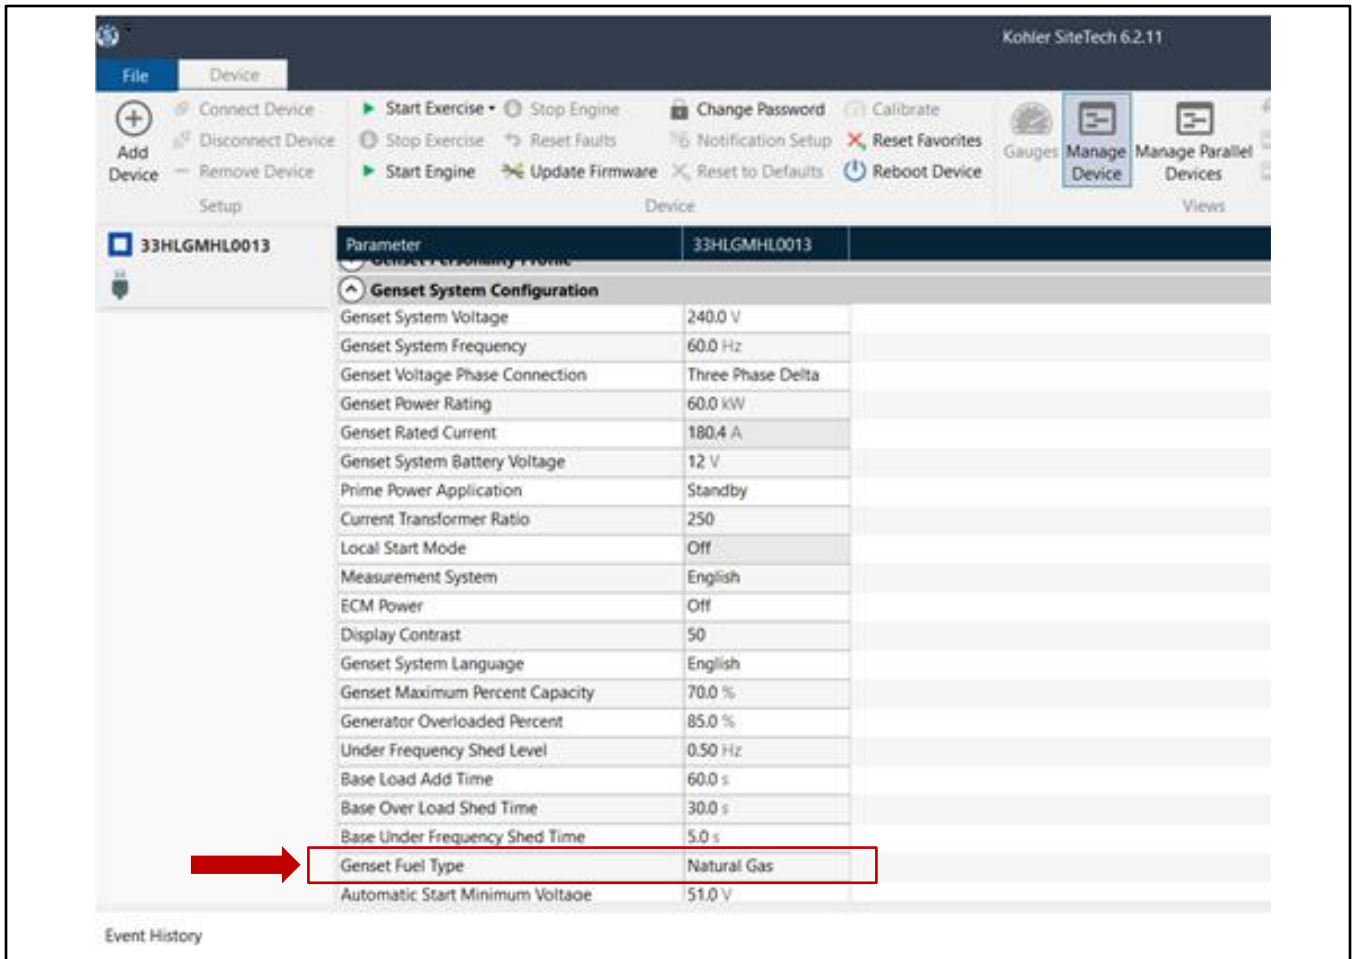

Figure 26 Using SiteTech to Change the Fuel Type
6. Using the RDC2 controller or Kohler SiteTech, change the fuel type to LPG. See Figure 26.
6. Using the RDC2 controller or Kohler SiteTech, change the fuel type to NG. See Figure 26.